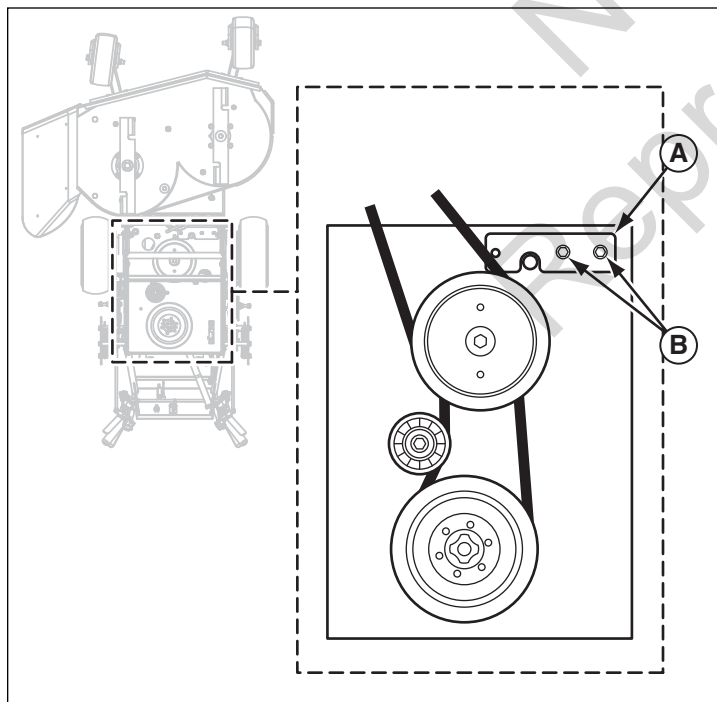

Figure 26. Adjusting the Belt Guides
The adjustable belt guide (**A, Figure 26**) is located on the left front corner of the engine deck of the machine. The proper adjustment of the belt guide will help prevent the belt from falling off the pulleys when the blades are disengaged.
2. The adjustable belt guide should contact the edge of the belt. See Figure 26.